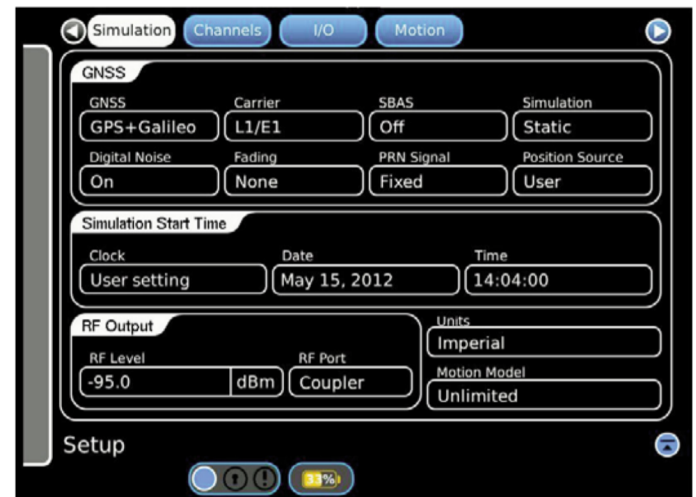

Figure 5
7. On the GPSG-1000 #1 Setup screen in the GNSS fields, set GNSS to GPS+Galileo and Carrier to L1/E1. See Figure 5.